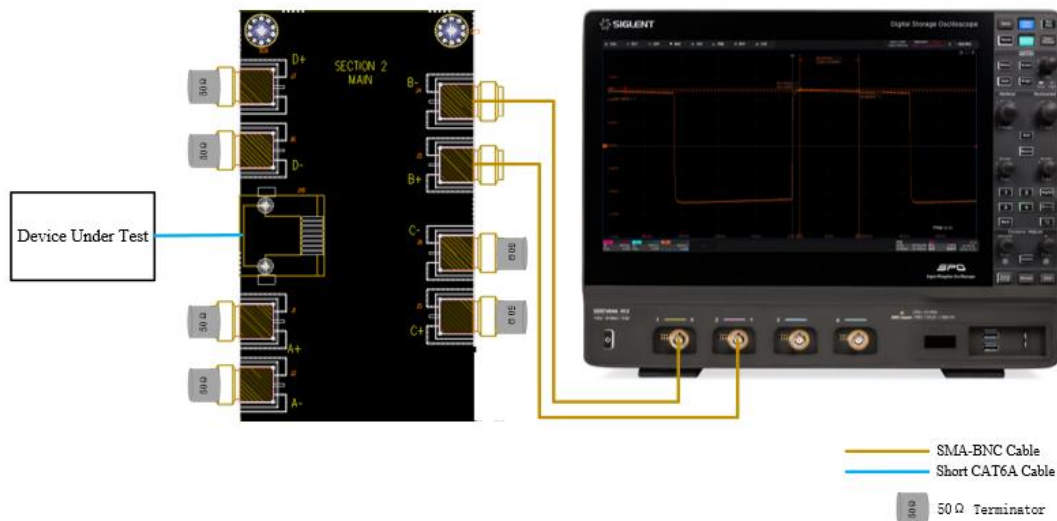

Figure 4-17 Connect Diagram in the Connect Menu
- **Connect:** This column displays the connection diagram of the compliance test, as shown in Figure 4-17. If more than one item is selected simultaneously, only the connection diagram for the first test item will be displayed. For the other test items, if the connection is different then a new pop-up window will appear at the end of the previous test.